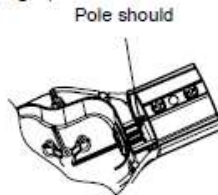

FIG.2
3. Insert the pole up to the position shown in the drawing below (Fig 2)